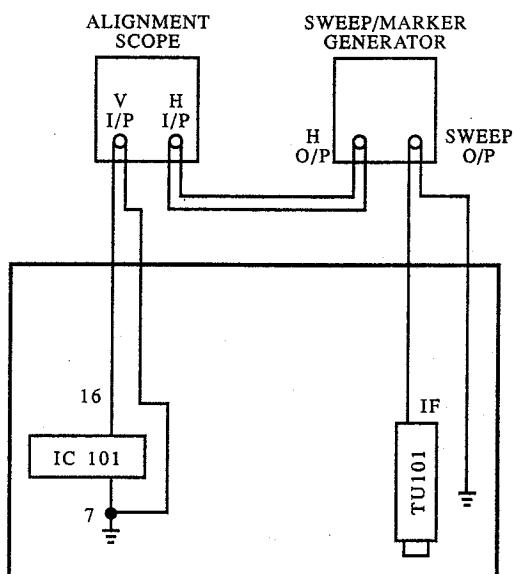

FIG 4 MAIN CHASSIS
1. Connect IF sweep/marker generator to the IF pin of tuner TU101 as shown in figure 4.